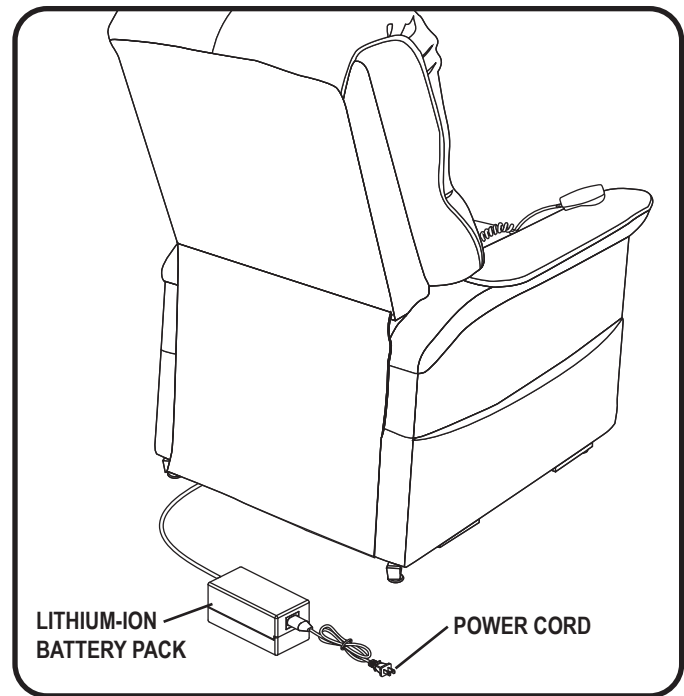

Figure 4.5 Chair Battery Back-up Location
2. Position the external transformer so that the lithium-ion battery is facing upward (**fig. 4.5**).